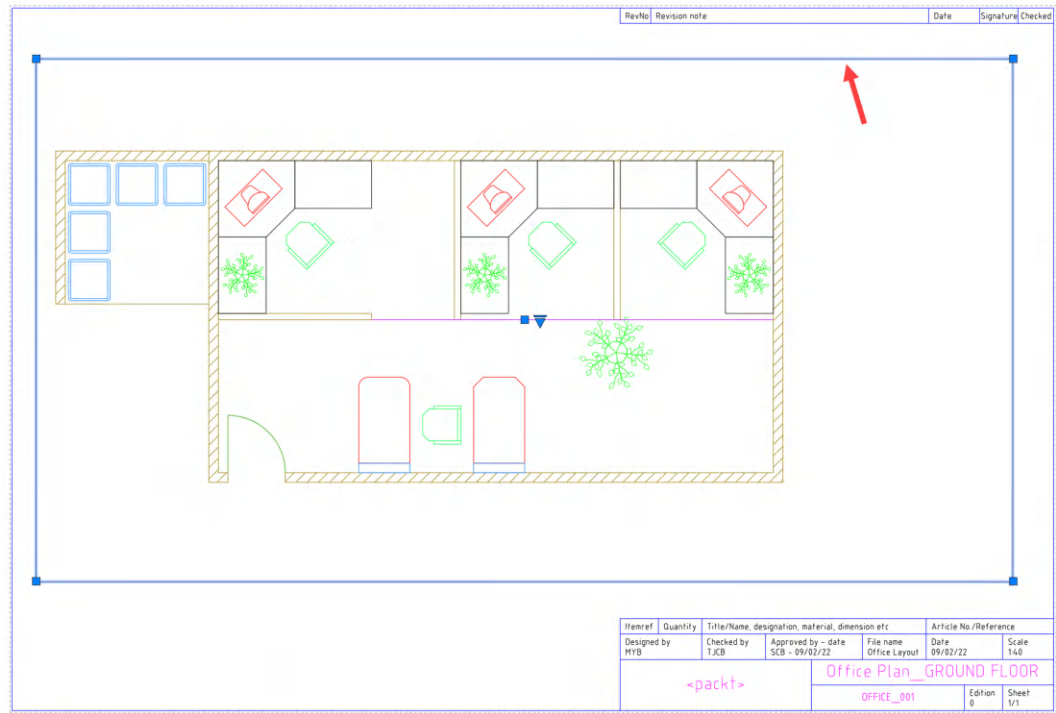

Figure 8.3: The original viewport in the ISO A3 layout tab
2. Click on the outline of the viewport to select it. The viewport object's grips will be displayed, as shown in *Figure 8.3*: